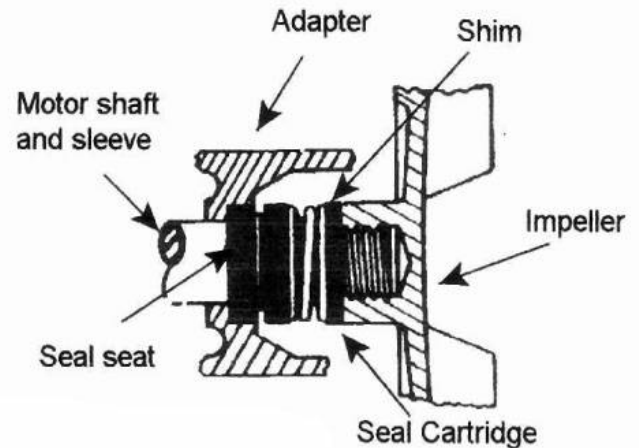

Figure 1 - Mechanical Seal Replacement
Refer to figures 1 and 2.
**NOTE:** When the clearance between the impeller and the volute/wearplate exceeds 1/16" at the face of the impeller or 1/8" on the outside diameter of the impeller, it may be necessary to take corrective action. The increased clearance can cause lengthened priming and decreased capacity to your unit. If performance is satisfactory for your application, it is recommended that no corrective maintenance be performed regardless of what clearances on your unit may have developed. This is because increased clearances in themselves are not generally harmful to your pump. Normally, new pump clearances can be restored by simply shimming behind the impeller. (Add shim washers Ref. No. 11). If the impeller is badly worn, it is recommended that the impeller be replaced. This is usually all that is required since only on abrasive surfaces does the cast iron wearplate show deterioration. Occasionally a stone or hard object might get caught in the impeller and cause damage to the volute/cutwater. In these cases follow the instructions below for replacement and refer to Figure 1.